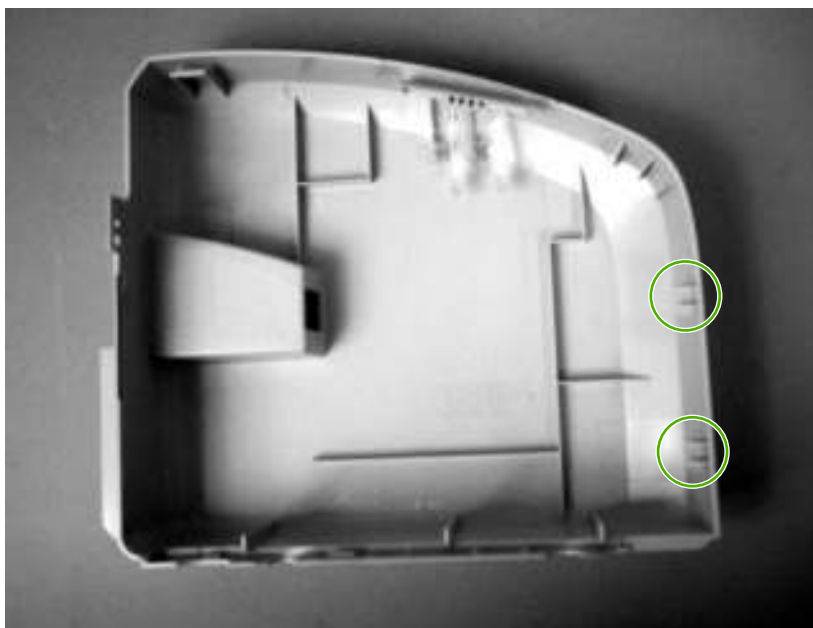

Figure 5-6 Remove the right-side cover (1 of 4; HP LJ 1020 printer shown)
- 1 Before removing the cover, examine Figure 5-6 Remove the right-side cover \(1 of 4; HP LJ 1020 printer shown\) on page 75 and note the location of tabs on the cover.